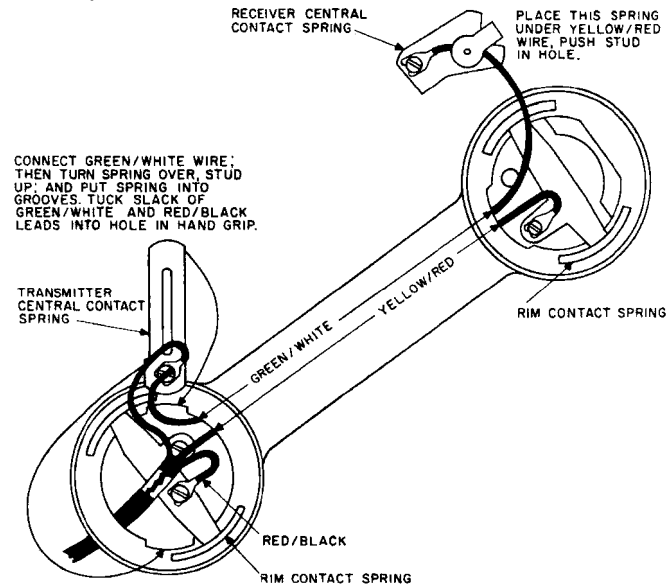

Figure 26. Type 81 handset cord replacement.
- Follow the instructions for removing the handset capsules as described in section 6.1. Remove the transmitter and receiver center contact springs (figure 26). Then loosen the screws and disconnect the leads from the center contact springs. Loosen the screws and disconnect the leads to the rim contact springs at the receiver and transmitter. Then pull out the old cord.
- Connect the yellow lead to the receiver rim contact spring and the green lead to the receiver center contact spring as shown in figure 26.
replace the spring into the grooves of the transmitter well with the stud ends up (figure 26).